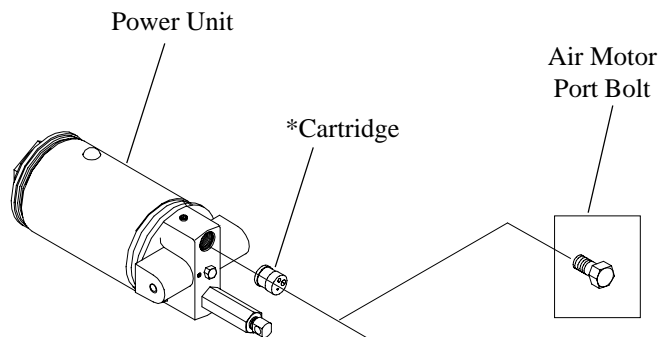

Fig. 2
3. Remove the air motor port bolt, take care not to damage threads or misplace safety valve cartridge in the process, ensure cartridge is positioned as below, refer to Fig. 2.